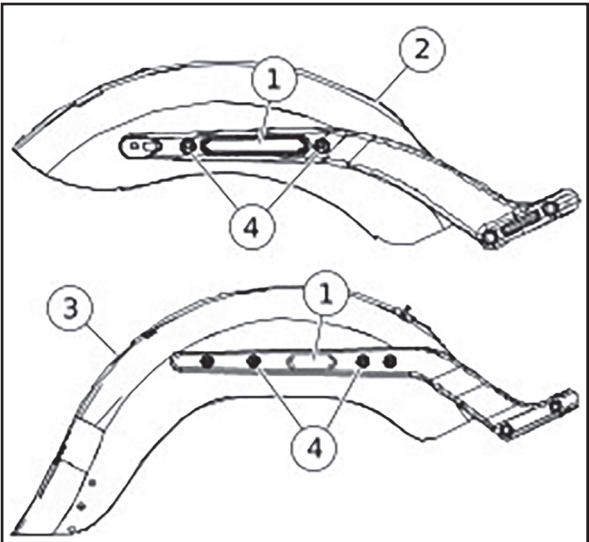

Figure 1. Fender Strut Screw
- 1. See Figure 1. Remove OEM reflector (1) from each side of fender strut.
- 2. Remove screws (4) from fender (2, 3).